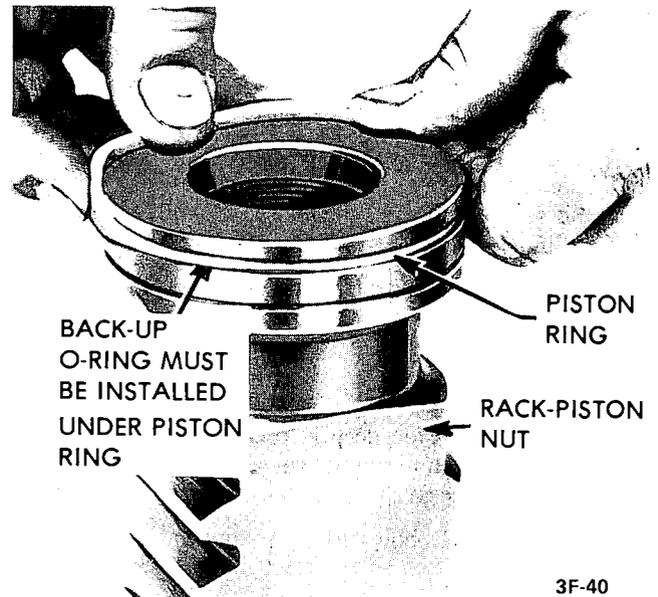

Figure 3F-21 - Installing Ring on Rack Piston
2. Lubricate and install new teflon oil seal and "O" ring in groove on rack-piston nut. Place a new piston ring over the back-up "O" ring. See Figure 3F-21.